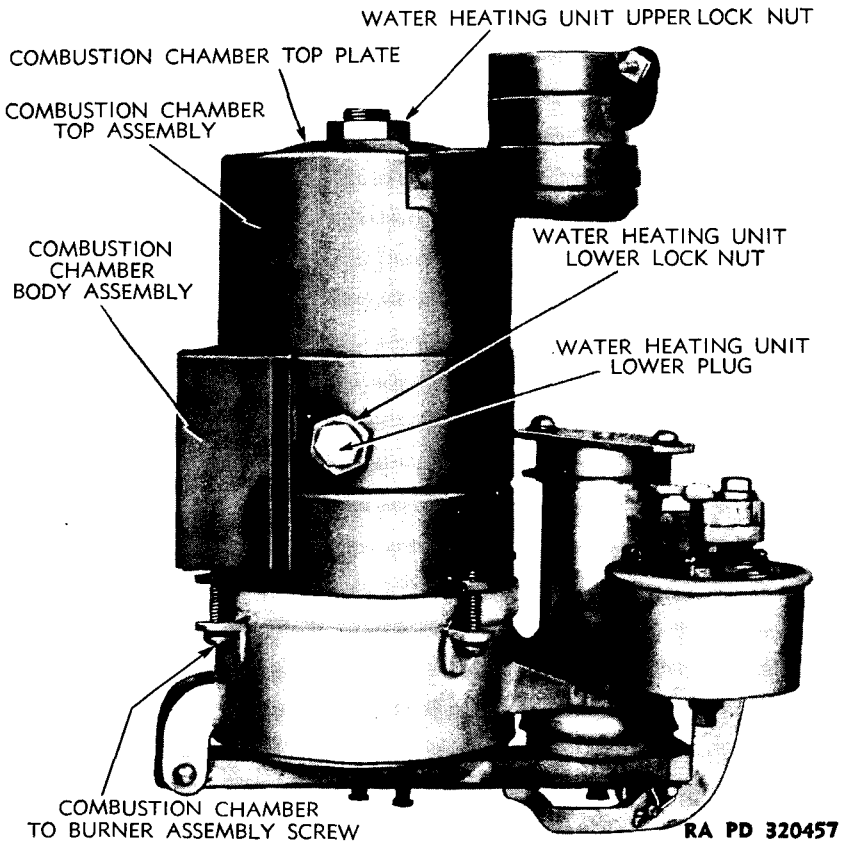
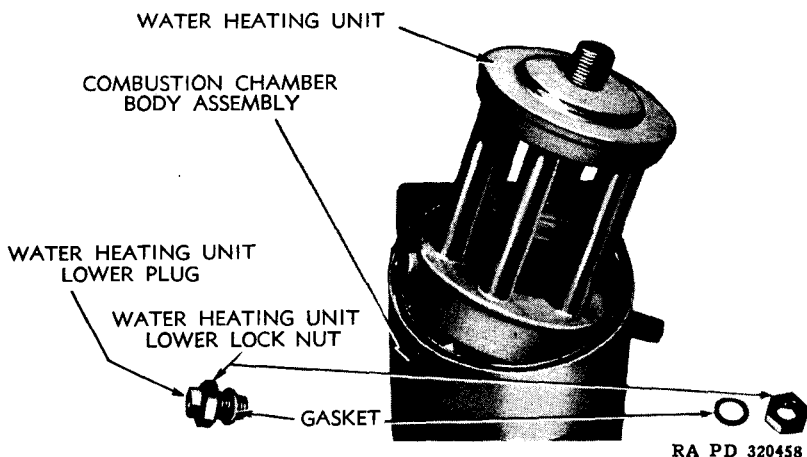

Figure 43 — Engine Preheater Assembly
Figure 44 — Water Heater Unit Removal
combustion chamber top (fig. 43). Turn lower nut on water inlet nipple counterclockwise to remove nut and gasket. Loosen lower nut on lower plug at opposite side of water heating unit. Turn lower plug counterclockwise to remove plug, nut, and gasket. Raise side of water heating unit from which lower plug was removed out of combustion chamber body first, as shown in figure 44, and slide unit toward that side to clear nipple on opposite side.
b. Remove Combustion Chamber Body. Remove four screws and lock washer holding combustion chamber body to burner assembly (fig. 43). Pull combustion chamber body from burner assembly.
d. Install Water Heating Unit. Place the combustion chamber body on bench with the attaching bracket away from assembler. Start water heating unit as shown in figure 44, and set down into place. Install plug, lock nut, and gasket on left side, and lock nut and gasket on right side. Do not tighten lock nuts; just tighten plug. Install combustion chamber top so that flue connection extends opposite preheater attaching bracket. Install combustion chamber, top plate, and upper nut. Tighten the upper nut first, and then the two lower lock nuts. *NOTE: Be sure that packing is in groove at top of combustion chamber before putting combustion chamber top in place.*
e. Connect Combustion Chamber Assembly to Burner. Install packing in top groove of burner assembly. Install combustion chamber assembly onto burner assembly (fig. 43), and secure with four screws and lock washers. Tighten these screws evenly. Turn heater bottom side up, and install packing and ameripol gaskets in bottom grooves of burner where lower covers contact burner, if above gaskets were removed. See that drain plug in bottom of float bowl is tight. Cover any openings in preheater until ready for use, to keep out any dirt.